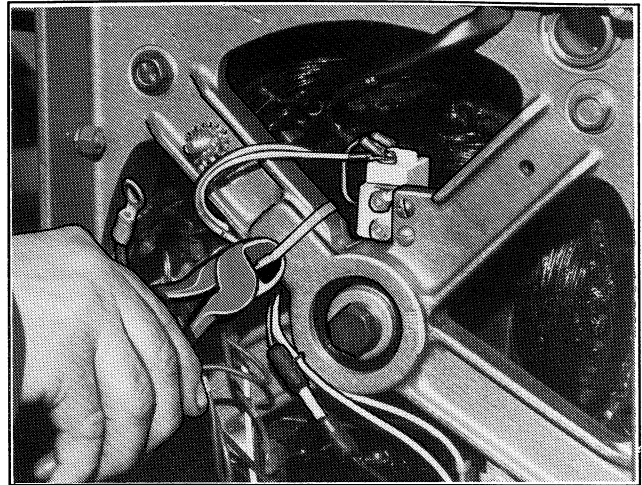

Figure 8-4. Removing Lead Ties
10. Cut cable ties securing leads to end bracket. Figure 8-4.